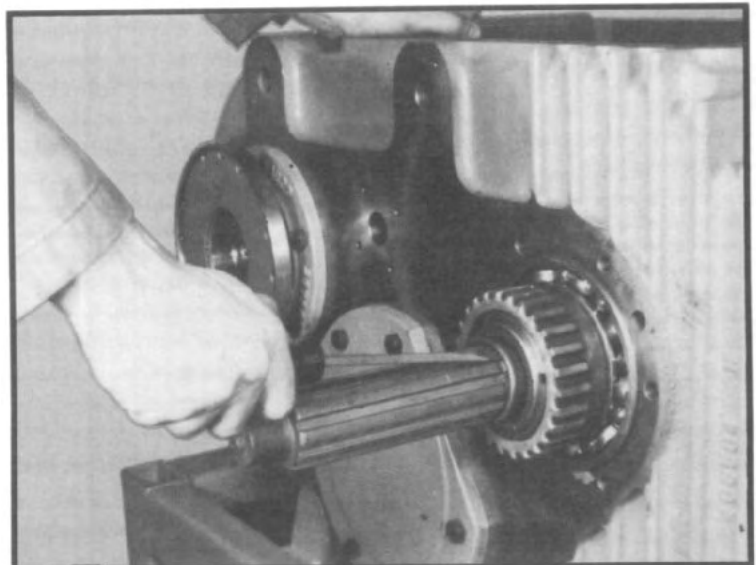

Fig. 65
3.12 Remove retaining ring from front of sun gear shaft and remove shaft. (See fig. 65.) If sun gear requires disassembly remove snap ring and sun gear. Inside retaining ring can be removed if required.